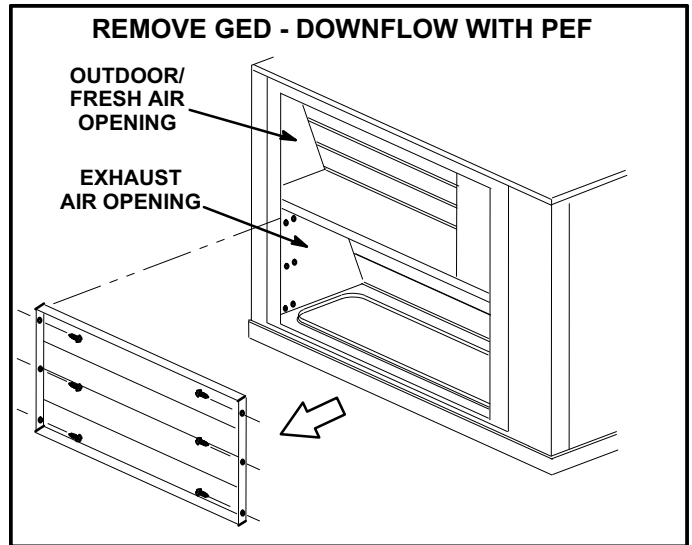

FIGURE 5
- 1- Remove GED from the economizer and install in the fresh / exhaust air hood when optional power exhaust fans are installed. See figure 5.